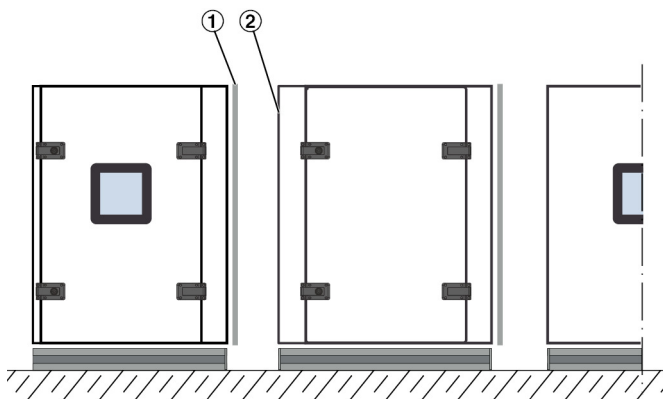

Fig. 11: Seals on AHU casing units
- ▶ Assemble the AHU casing units as closely as possible to the installation site in accordance with the installation sequence, Fig. 11 . Also pay attention to the local interfaces, e.g. to drainage and water connections.
- ▶ Perimeter seals ( Fig. 11 /1) are fitted at the connection points of the AHU casing units. The seal is only located on one AHU casing unit in each case, the casing unit to be connected to it has no seal ( Fig. 11 /2).